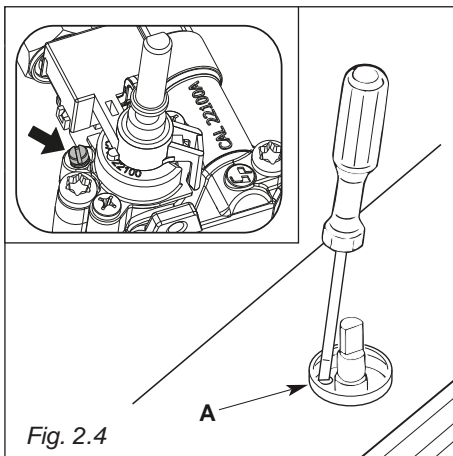

Fig. 2.4
- With a small flat screwdriver turn the screw "A" to the correct regulation (fig. 2.4).